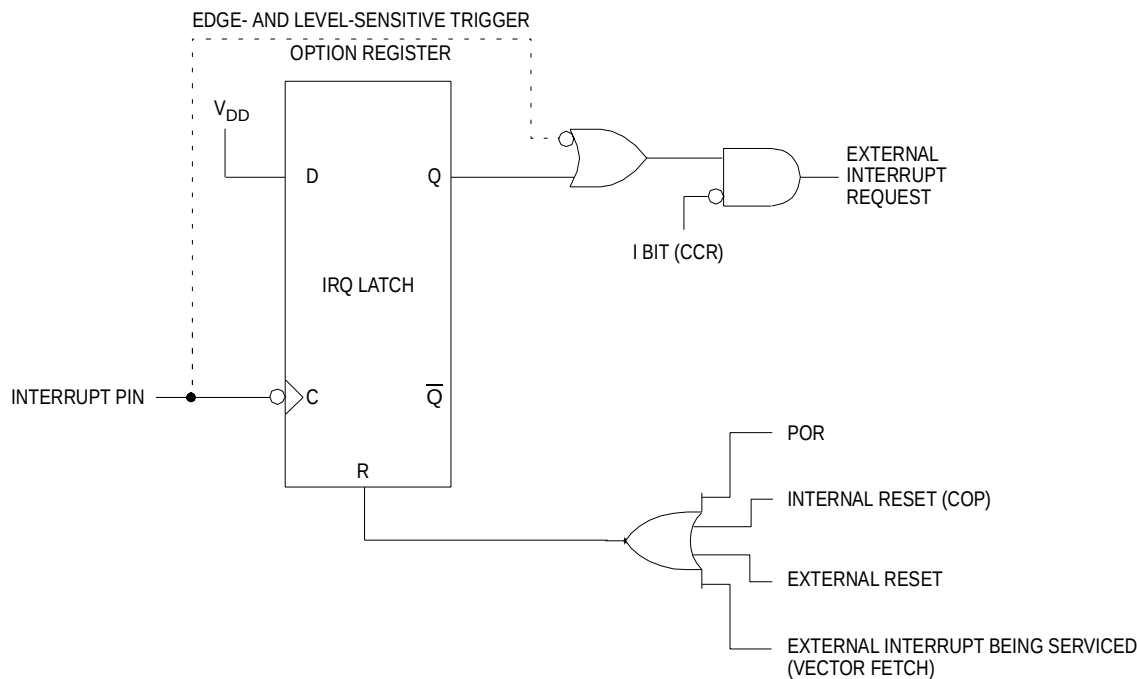
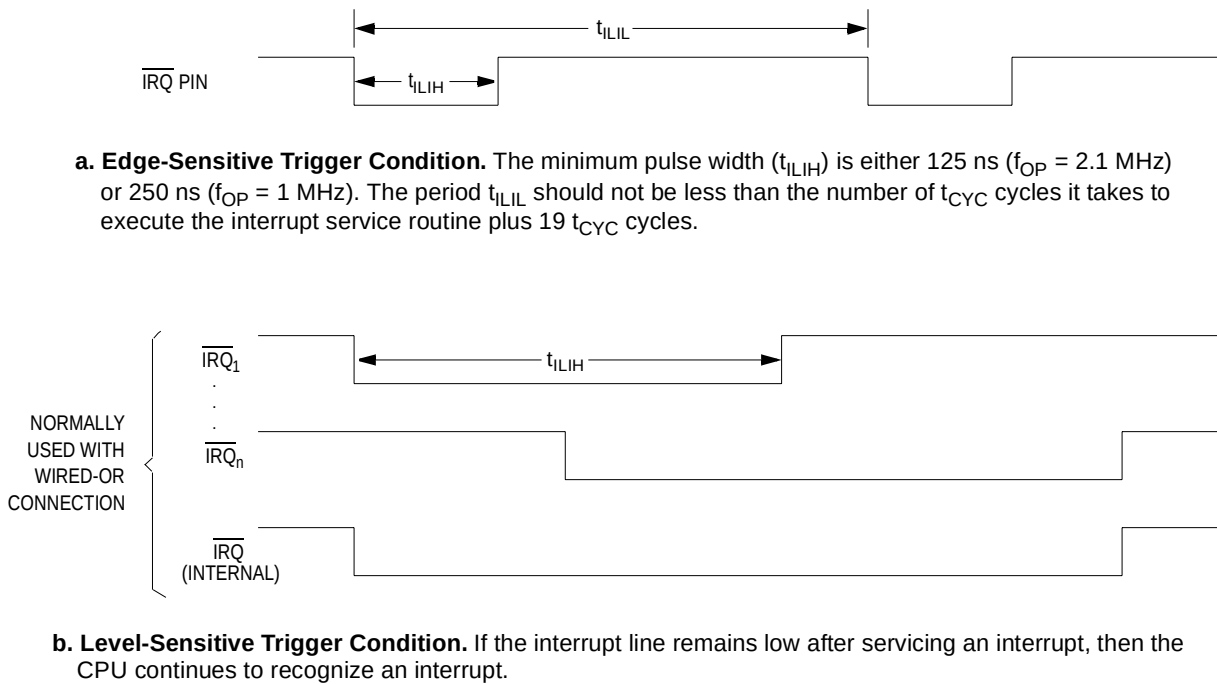

Figure 4-1. External Interrupt Internal Function Diagram
Figure 4-2. External Interrupt Timing
If the IRQ latch is set and the I bit is clear, the CPU then begins the interrupt sequence. The CPU clears the IRQ latch while it fetches the interrupt vector, so that another external interrupt request can be latched during the interrupt service routine. As soon as the I bit is cleared during the return-from-interrupt (RTI) instruction, the CPU can recognize the new interrupt request. **Figure 4-1** shows the logic for external interrupts.
**Figure 4-1** shows an external interrupt functional diagram. **Figure 4-2** shows an external interrupt timing diagram for the interrupt line. The timing diagram illustrates two treatments of the interrupt line to the processor.